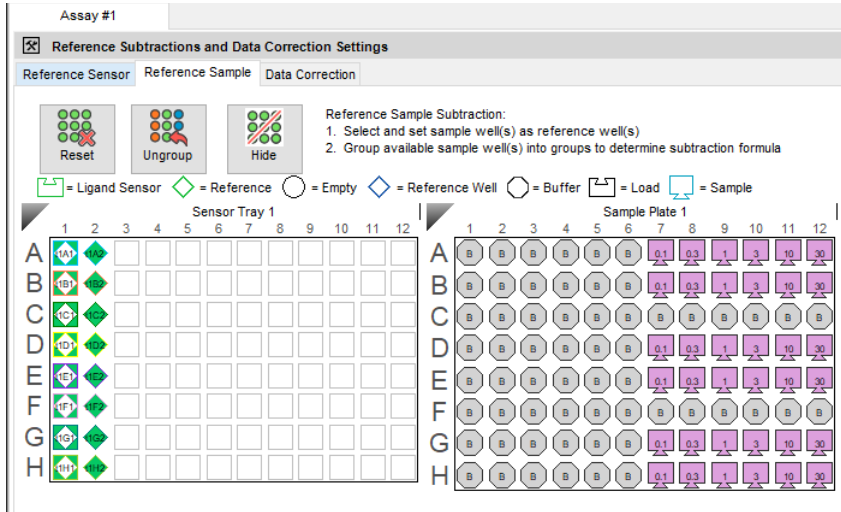

Figure 4-35: Biosensor Tray Display After Show is Selected
Click **Show** to display both the biosensor tray and the sample plate (Figure 4-35). The default view shows only the sample plate.
- Biosensors used in the experiment are green in the tray map and are set to ligand sensors by default, all other wells display empty. If you set reference and ligand biosensors and grouped them for non-specific binding subtraction in the Reference Sensor tab, those designations also display here (Figure 4-35).
- Biosensors are identified by their tray number and well number. For example t1A3 is the biosensor in well A3 on tray 1, t2H5 is the biosensor in well H5 on tray 2 (Figure 4-35).